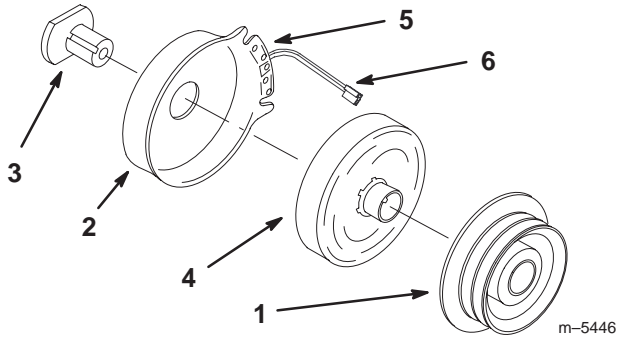

Figure 3
1. Remove the pulley and armature assembly from the clutch assembly (Fig. 3).
3. Install new rotor into assembly and onto the rotor post (Fig. 3).
4. Install new armature and pulley onto the rotor and under the clutch magnets (Fig. 3).